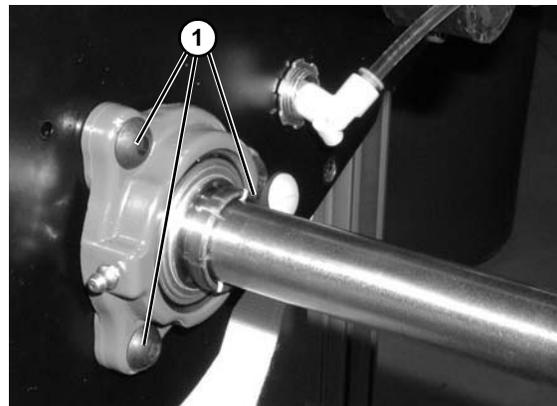

Figure 89
6. Tighten three (3) mounting screws (Figure 89, item 1) to 200 in-lbs (22.5 N-m).